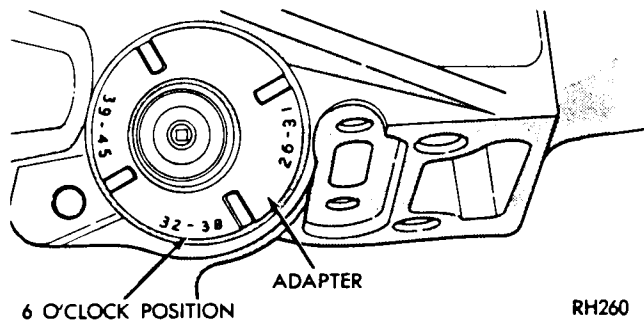
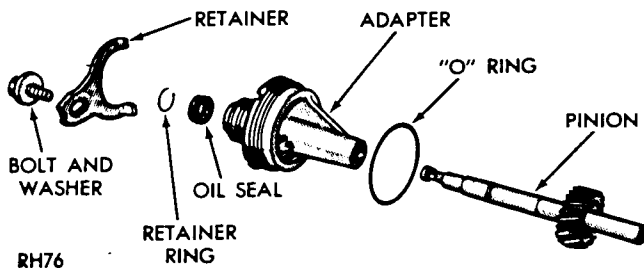

Fig. 1—Speedometer Pinion and Adapter
Fig. 2—Speedometer Drive
- (1) Place drain pan under speedometer adapter.
- (2) Remove bolt and retainer securing speedometer pinion adapter in the extension housing (Fig. 1).
- (3) With cable housing connected, carefully work adapter and pinion out of the extension housing.
- (4) If transmission fluid is found in cable housing, replace seal in the adapter (Fig. 2). Start seal and
(5) Note number of gear teeth and install speedometer pinion gear into adapter.
(6) Rotate the speedometer pinion gear and adapter assembly so that the number of teeth on the gear, is in the 6 o'clock position as assembly is installed (Fig. 1).
(7) Install retainer and bolt, with retainer tangs in adapter positioning slots. Tap adapter firmly into the extension housing and tighten retainer bolt to 100 in. lbs. (11 N·m). Refill transmission.